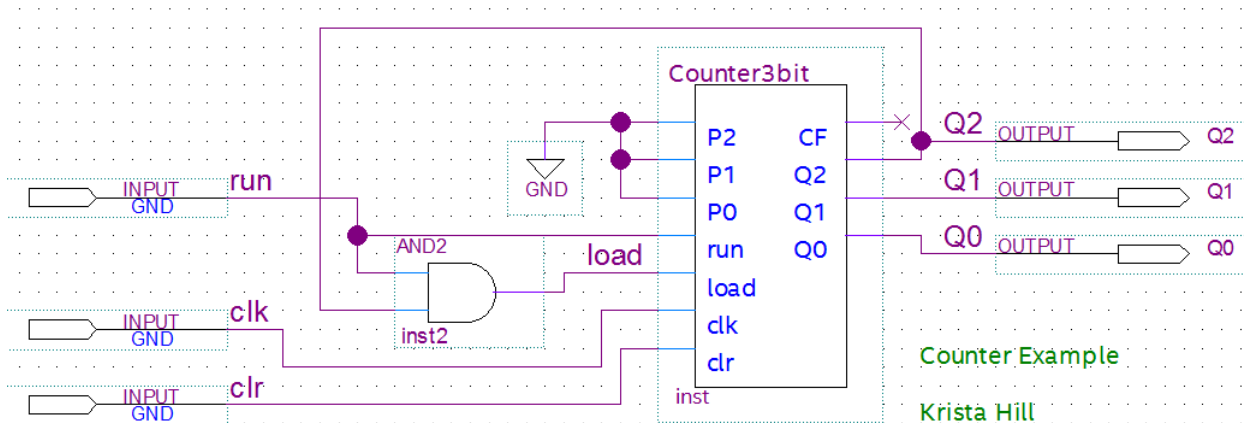

Figure 29: Example module based counter
Here, we use ModelSim to simulate the counter circuit schematic shown in Figure 29, which uses the Counter3.zip file outlined in section 12. This circuit counts starting at zero (000) and then overflows after four (100).